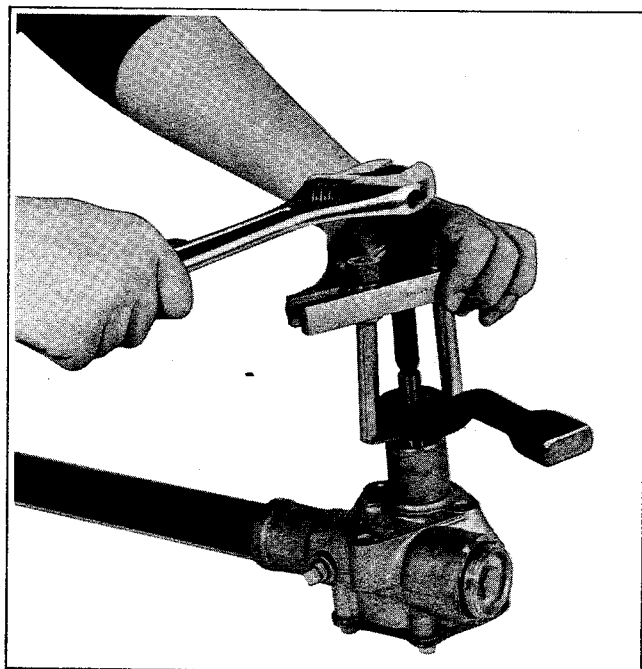

Figure 2-25. Pulling Steering Arm
After removing locknuts (8), steering stop plate (9) and nut and lockwasher (10), use a claw puller to remove steering gear arm (11) as shown in Figure 2-25. Remove three bolts and lockwashers (12) securing steering stop (13) and steering gear unit to chassis. Steering gear unit and steering column can be removed from the car after removing locknuts (14), bolts (15), clamp (16) and support block (17).
To disconnect steering arm (1) from lever shaft, remove nut and lockwasher (2) and use claw puller, Part No. 97292-61 to pull arm (1) from shaft splines (See Figure 2-25).